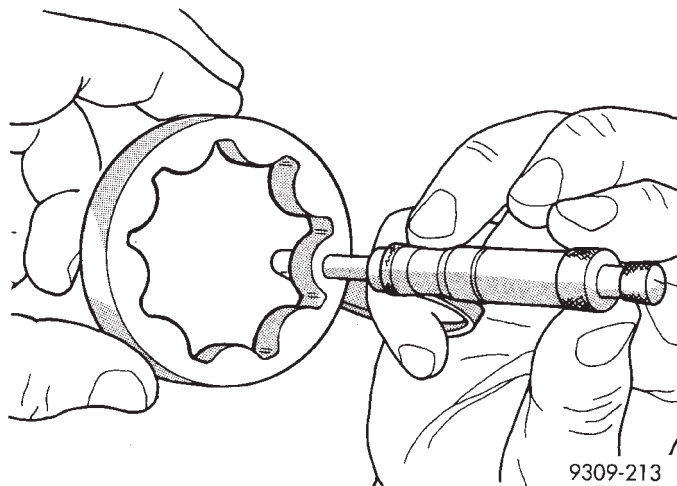

Fig. 8 Measuring Outer Rotor Thickness
- (3) Measure thickness and diameter of outer rotor. If outer rotor thickness measures 7.64mm (.301 inch) or less (Fig. 8), or if the diameter is 79.95mm (3.148 inches) or less, replace outer rotor.